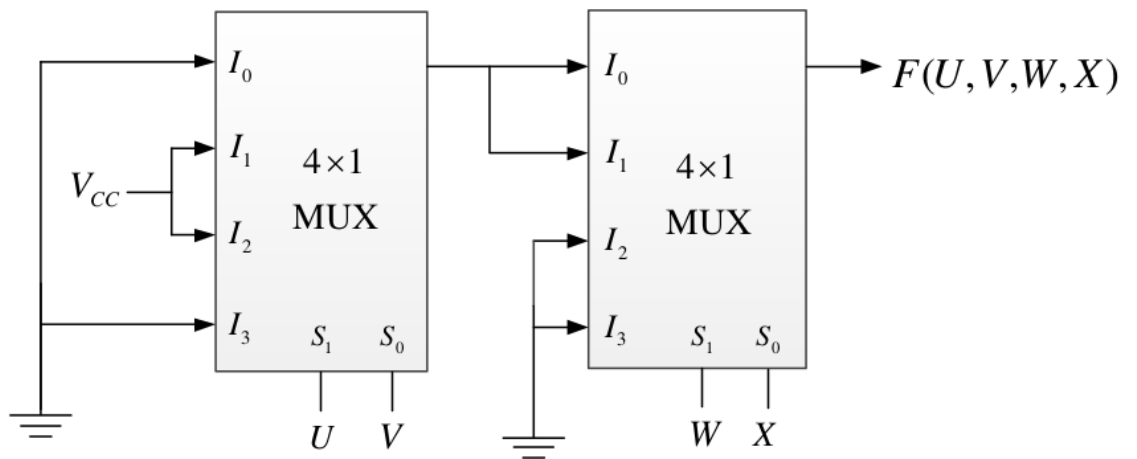

Figure 3.8:
21. Find the logic function implemented by the circuit given below in Fig. 3.8 (GATE EC 2018)